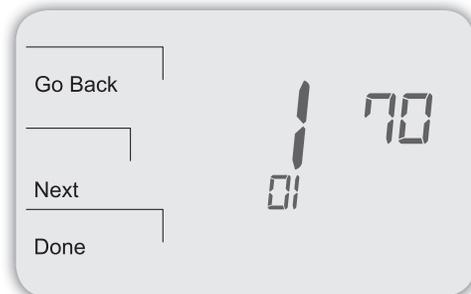

Figure 24.
4. **Go to Service Menu 170.** Select option "01" to enable the Indoor Sensor (see Fig. 24).